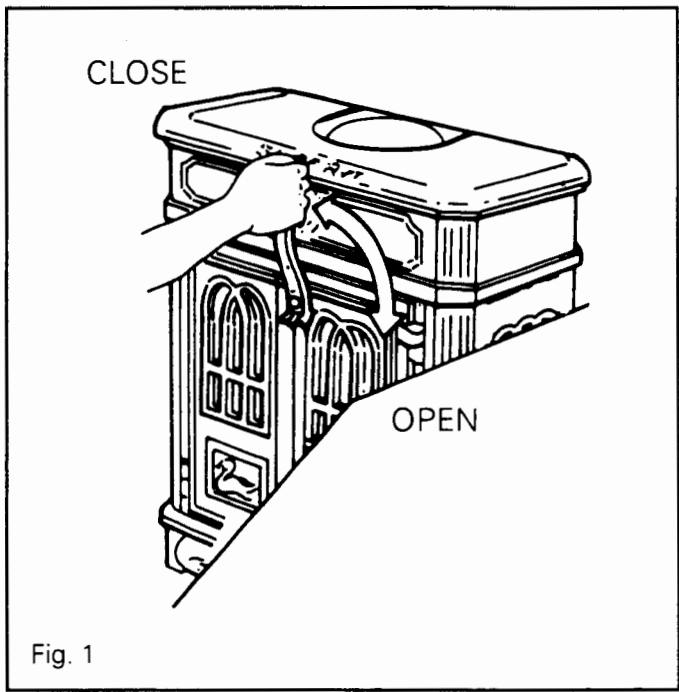

Fig. 1
- a. Open the firedoor. See Fig.1.
- c. When blazing, close the firedoors, Fig.1, and set both air control levers to maximum, Fig.1.
- e. Close and lock the firedoors, Fig.1 with the operating tool. **This is essential to achieve continual safe running and efficient operation of the stove.**
b. Open the locked fire doors with the operating tool, Fig.1.